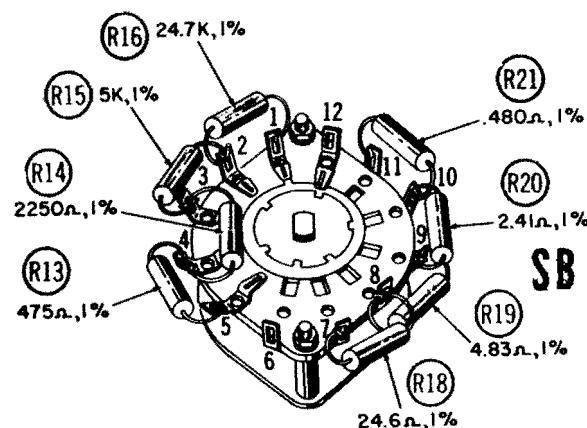

FIGURE 2
REFER TO FIGURE 2.
- (✓) 19. Connect R14 (2250Ω, 1% carbon precision resistor) from SB 3 (Solder) to SB 4 (Don't Solder). Position this resistor to inside of switch so resistor leads will clear side of chassis when mounted. See Figure 2.